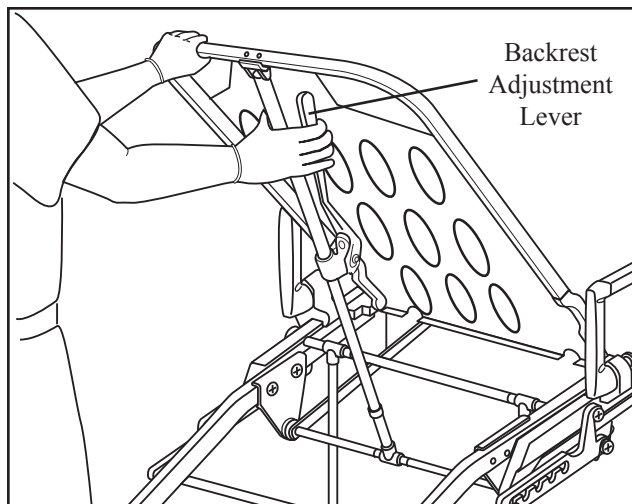

Figure 1 - Adjusting the Backrest
2. Support the backrest frame with one hand and squeeze the adjustment lever with the other hand (Figure 1), then move the backrest to its new position and release the adjustment lever. Continue to support the backrest frame until it locks into the new position.